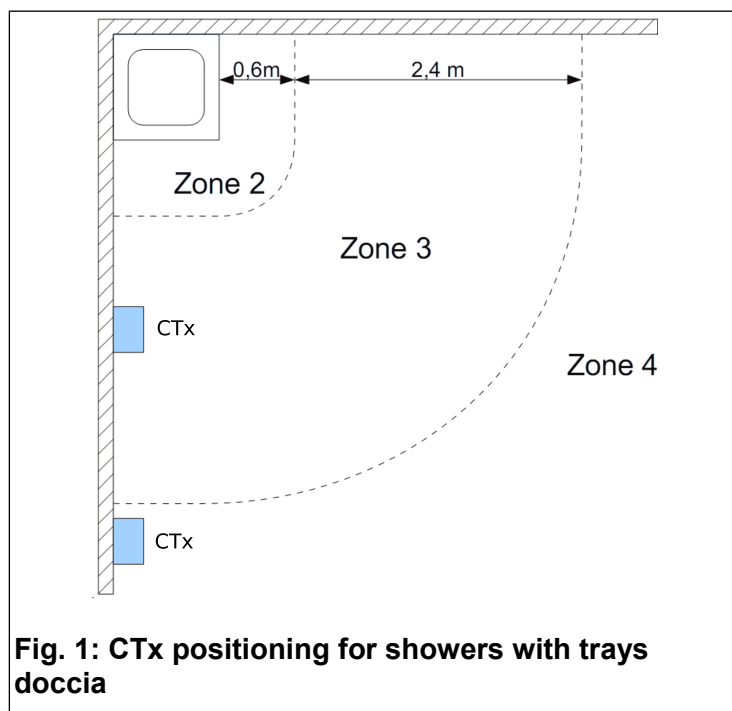
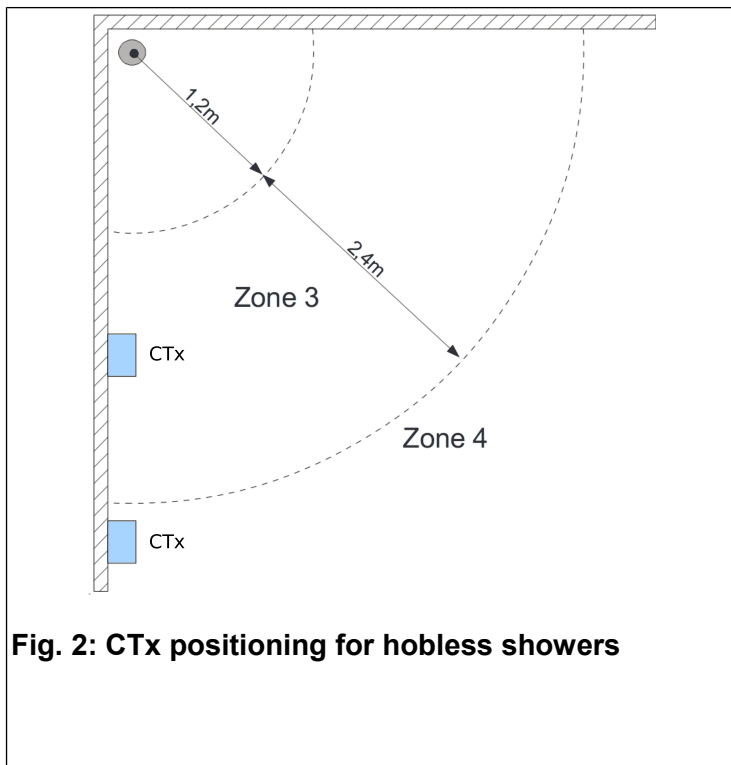

Fig. 1: CTx positioning for showers with trays doccia
Fig. 2: CTx positioning for hobless showers
1. CTx version 100-240V is directly powered with a voltage of 100-240V. When used for showers, regulation IEC60364-7 allows it to be installed in “Zone 3” on the condition that the device is powered by a residual current circuit breaker with a 30mA threshold. For greater safety we advise that this version be installed in “Zone 4”, and that a power supply 12Vdc be used in “Zone 3”. See Fig. 1 and Fig. 2 for identification of the zones.
- The regulations of the country in which it is to be installed with regards to the position of electric devices in special areas (showers, swimming pools, etc.). When the CTx is used for showers, the regulation IEC60364-7 allows it to be installed in "Zone 3" on the condition that the device is powered by a residual current circuit breaker with a 30mA threshold. For greater safety we advise that it be installed in "Zone 4". See Fig. 1 and Fig. 2 for identification of the zones.
- When the **relay unit** is used for showers, the regulation IEC60364-7 allows it to be installed in "Zone 3" on the condition that the device is powered by a residual current circuit breaker with a 30mA threshold. For greater safety we advise that it be installed in "Zone 4". See Fig. 1 and Fig. 2 for identification of the zones.
Place the provided power supply device inside an electrical panel far from the shower area, following the regulations in effect in the country in which installation takes place. For example the IEC60364-7 requires a distance of at least 3 m from the shower tray (Fig. 1) or at least 3.6 m from the small shower for hobless showers (Fig. 2).